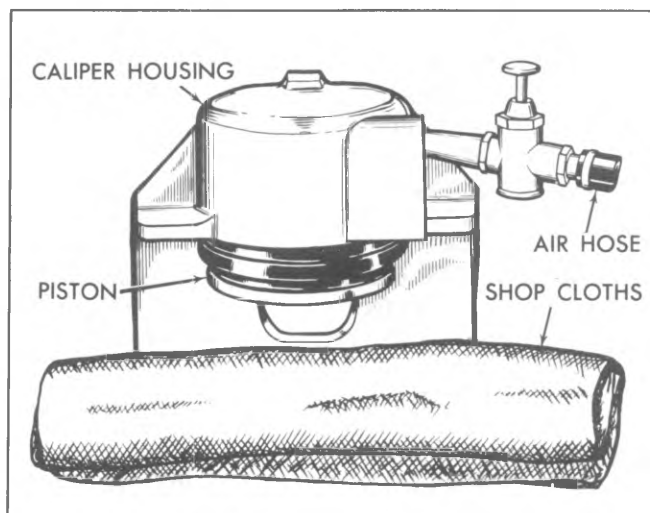

Fig. 5-39--Removing the Caliper Piston
3. Using clean shop cloths, pad the interior of the caliper and remove the piston by directing compressed air into the caliper inlet hole (fig. 5-39).